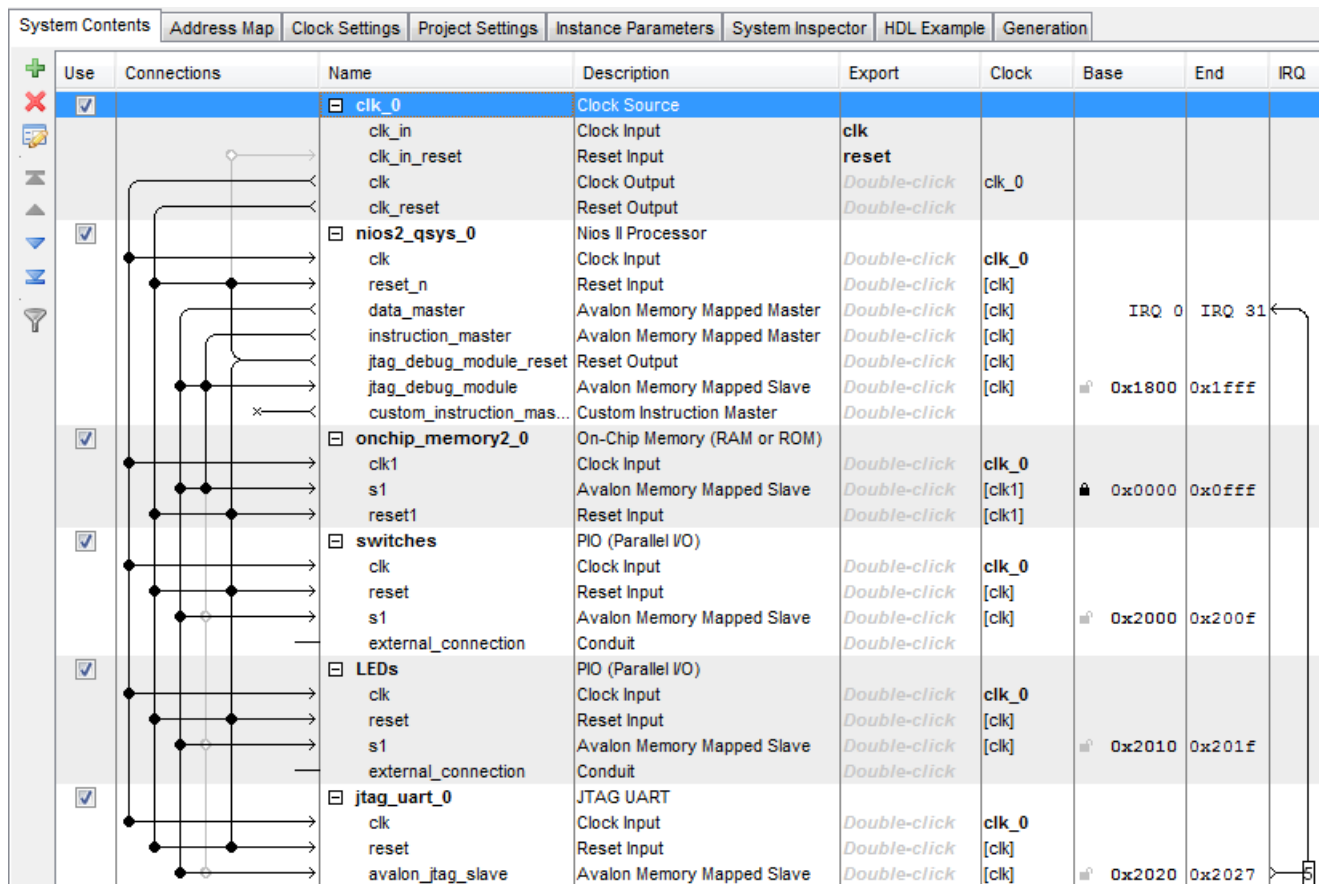
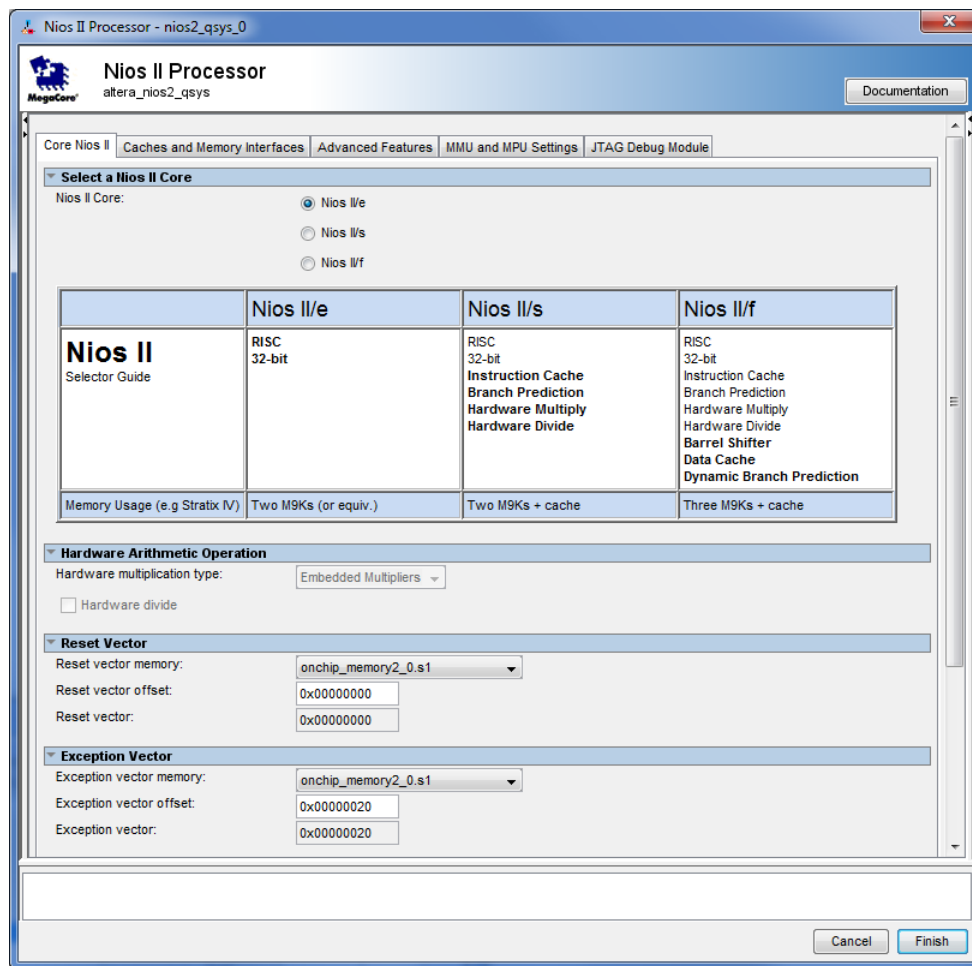

Figure 17. The system with assigned addresses.
Figure 18. Define the reset and exception vectors.
- Observe that the base and end addresses of the various components in the designed system have not been properly assigned. These addresses can be assigned by the user, but they can also be assigned automatically by the Qsys tool. We will choose the latter possibility. However, we want to make sure that the on-chip memory has the base address of zero. Double-click on the Base address for the on-chip memory in the Qsys window and enter the address 0x00000000. Then, lock this address by clicking on the adjacent lock symbol. Now, let Qsys assign the rest of the addresses by selecting **System > Assign Base Addresses** (at the top of the window), which produces an assignment similar to that shown in Figure 17.
- Right-click on the *nios2_processor* component in the window displayed in Figure 17, and then select Edit to reach the window in Figure 18
- Select *onchip_memory* to be the memory device for both reset and exception vectors, as shown in Figure 18